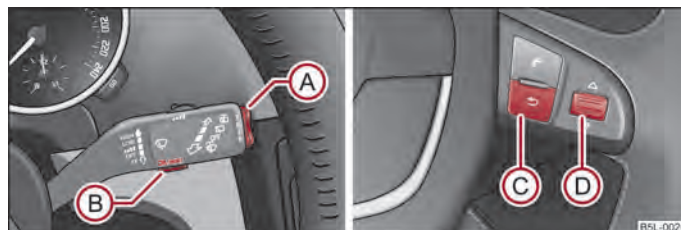

Fig. 7 Information display: Controls on the windshield wiper lever/controls on the multifunction steering wheel
- You can activate the **Main Menu** by pressing the rocker switch **(A)** ⇒ fig. 7 for more than 1 second.
- You can activate the **Main menu** by pressing the rocker switch **(C)** ⇒ fig. 7 for more than 1 second.